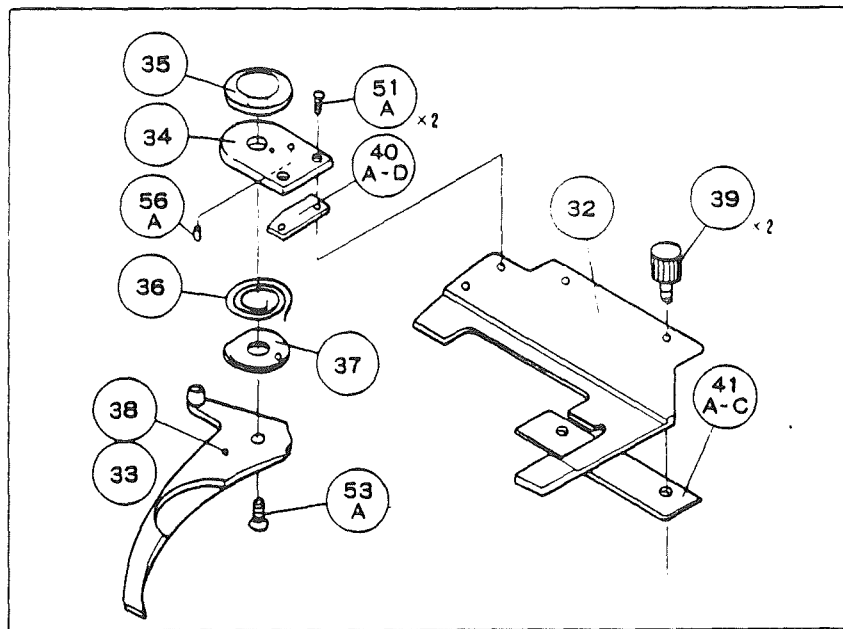

Fig. 2
- 2) Releasing the screws (51A) x2 remove the holder metal (34) from the holder (32).
- 3) Removing the screws (53A) separate the slide glass retainer (33) together with the washer (37) and the spiral spring (36) from the holder metal (34). (Fig. 2)